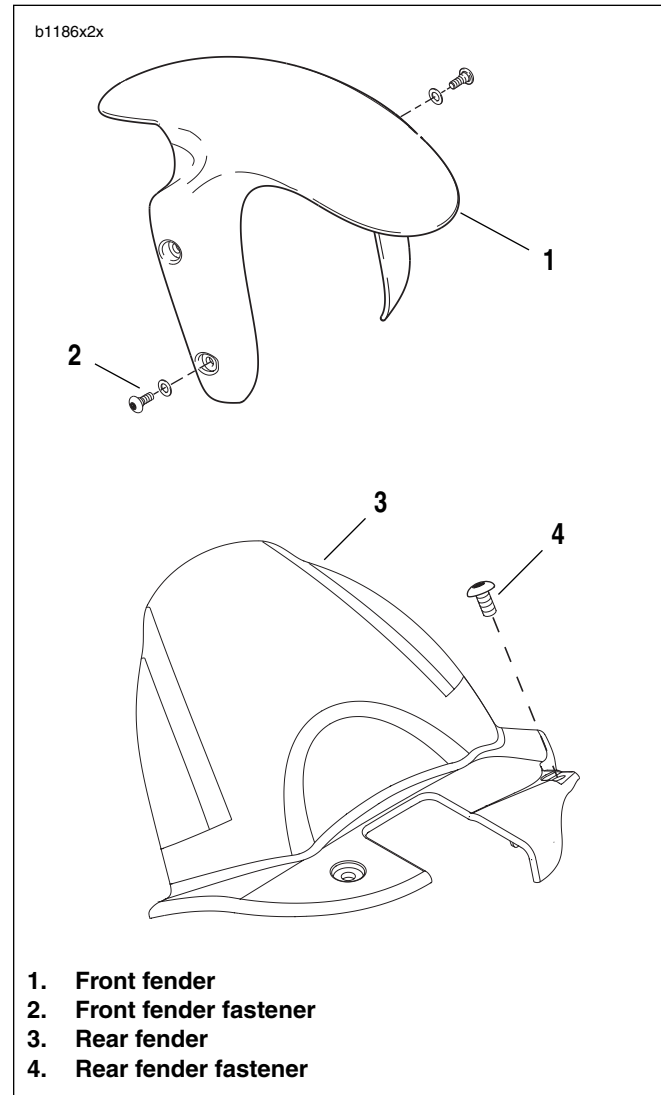

Figure 2-115. Front and Rear Fender
1. See Figure 2-115. Remove fasteners and washers (2) securing the front fender (1) to front forks.
2. Carefully remove front fender (1).
1. See Figure 2-115. Align front fender (1) to fender mounts on front forks.
2. Use LOCTITE 272 on all fasteners and install front fender (1) with fasteners and washers (2) and tighten to 36-48 **in-lbs** (4-5.4 Nm).
1. See Figure 2-115. Remove fasteners and washers (4) securing the rear fender (3) to swingarm.
2. Remove rear fender (3).
1. See Figure 2-115. Align rear brake line in rear fender.
2. Install rear fender (3) with fasteners and washers (4), Tighten to 12-36 **in-lbs** (1-4 Nm).